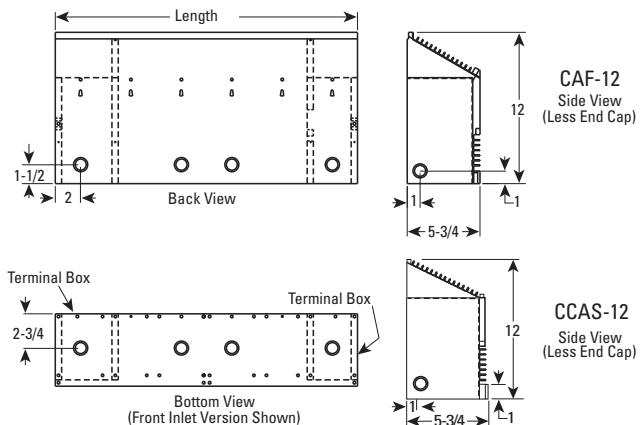

Figure 3
- Remove all appropriate knockouts from terminal boxes, particularly terminal box end knockouts when installing continuous run heating. (See Figure 3.)
- Service supply entry is usually made to one heater terminal box (see Figure 3) with through wiring (Factory Installed) being used for interconnection of all heaters in a continuous run installation.
- Knockouts are provided at the back, bottom and ends of all heater backs (see Figure 3). Terminal boxes are located at both ends of every heater.